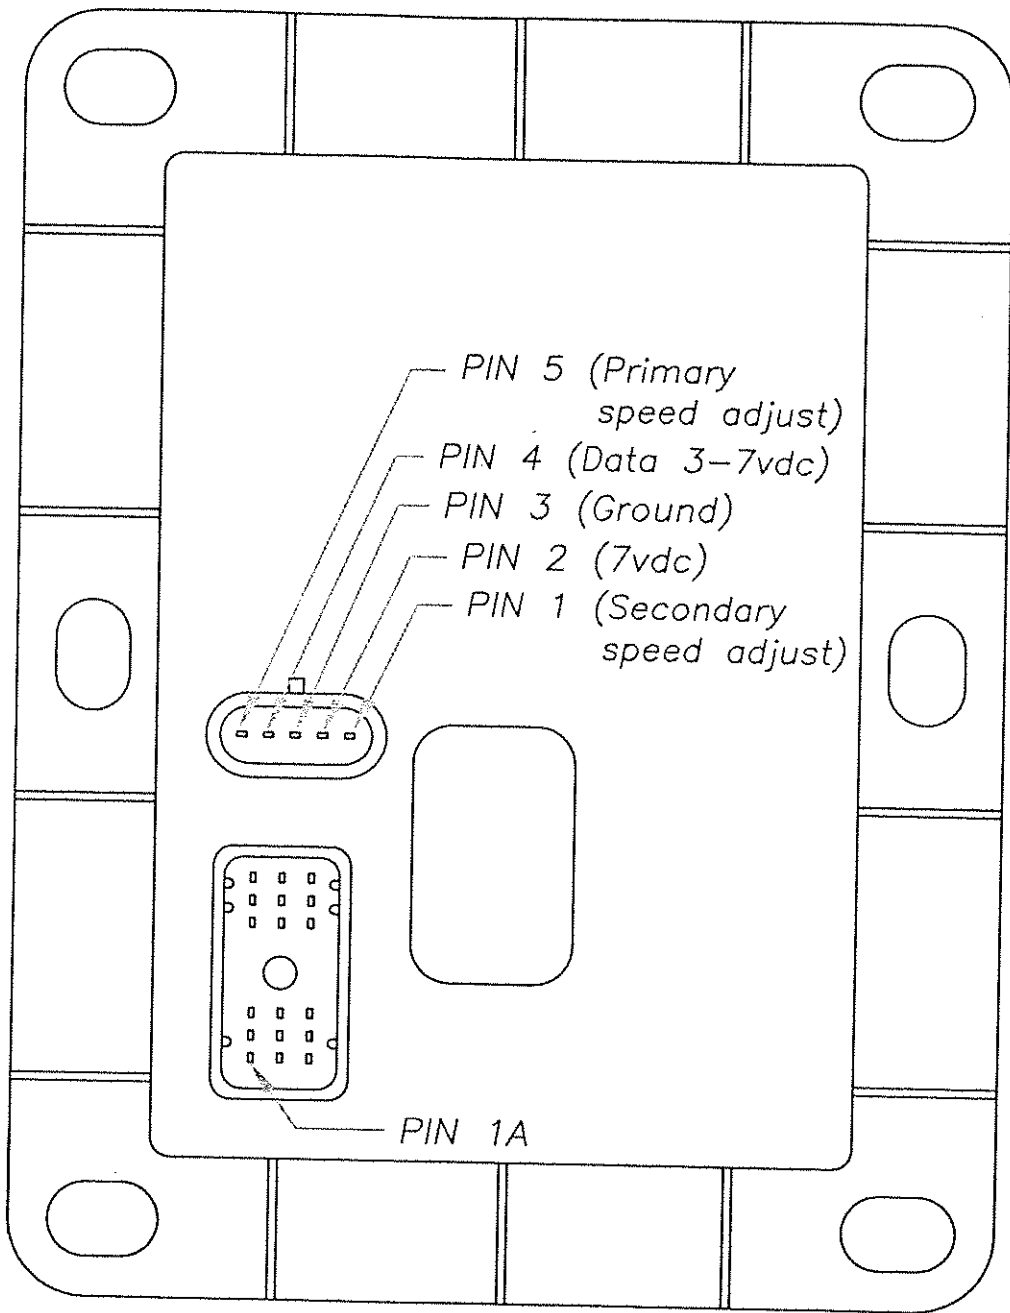

FIGURE 3: MDC
4. If there is no voltage check for 7 volts DC between pins 2 and 3 of the MDC (See Figure 3). If the meter now shows 7 volts DC, the wire harness is defective.